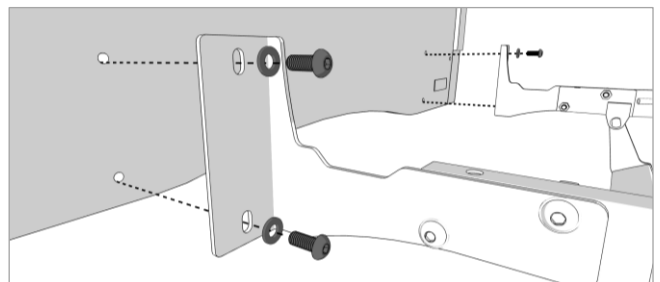

Figure 8.8
6. Secure the headboard using four M8 x 20 bolts and four M8 washers with the 5mm Allen Key as shown in Figure 8.8.